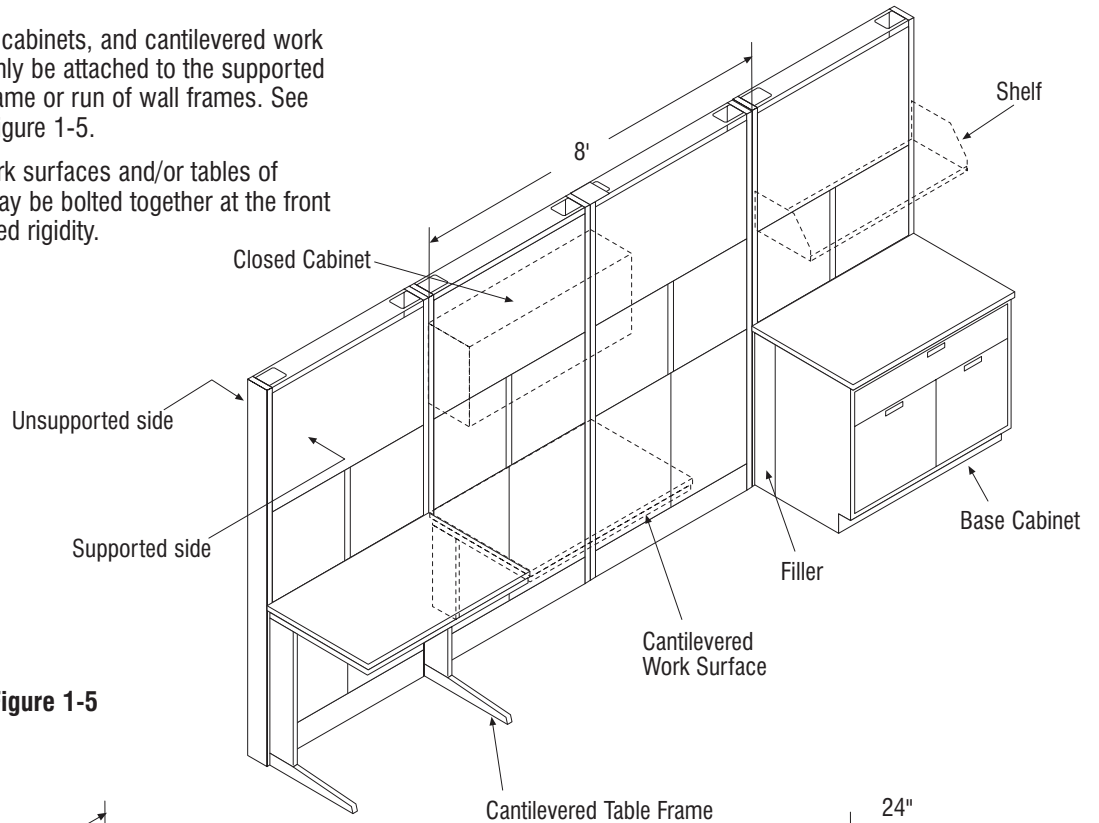

Figure 1-5
3. End supports are defined as any of the following items which add stability to a single run of wall frames: structural table, 24" or 30" wide wall frames, or support leg. See Figures 1-5, 1-6 and 1-7.
4. Shelves, closed cabinets, and cantilevered work surfaces may only be attached to the supported side of a wall frame or run of wall frames. See dotted lines in Figure 1-5.